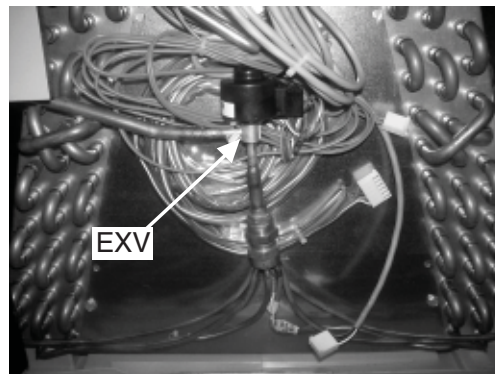

Figure 1. iQ Coil Assembly 919230E Front View, Showing EXV and 6-Wire Coil Cable
- Electronic expansion valve (EXV) (connected to the distributor) and attached coil, with 6-wire cable (Figure 1)